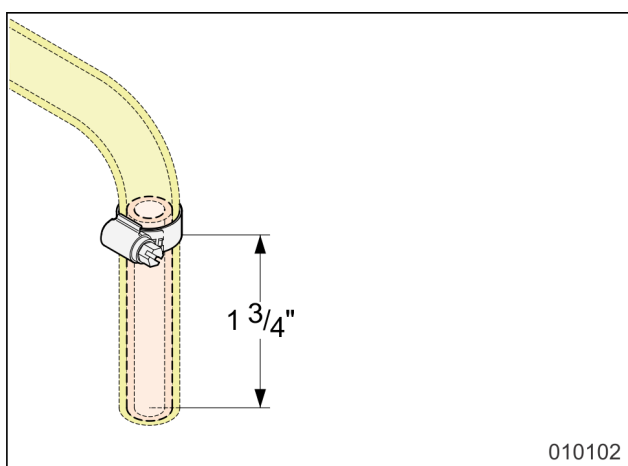

Figure 2
- 6) Install a clamp over the free end of the yellow fuel hose and secure it 1 $\frac{3}{4}$ " away from the end (Figure 2).